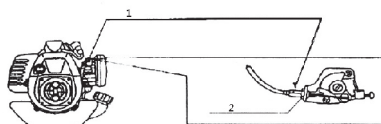

Fig. 6
- Accelerator cable regulator (Fig.6): Adjust the loosening hand of the accelerator cable until it is between 1.0 and 2.0mm. Excessive tension can cause engine failure.